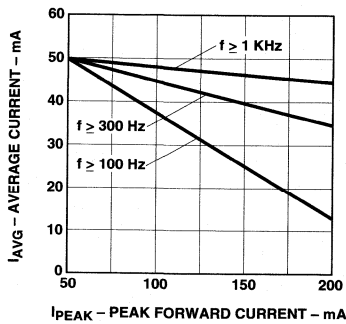

Figure 5. Maximum Average Current vs. Peak Forward Current.
3. Refer to Figure 5 for pulsed operating conditions.